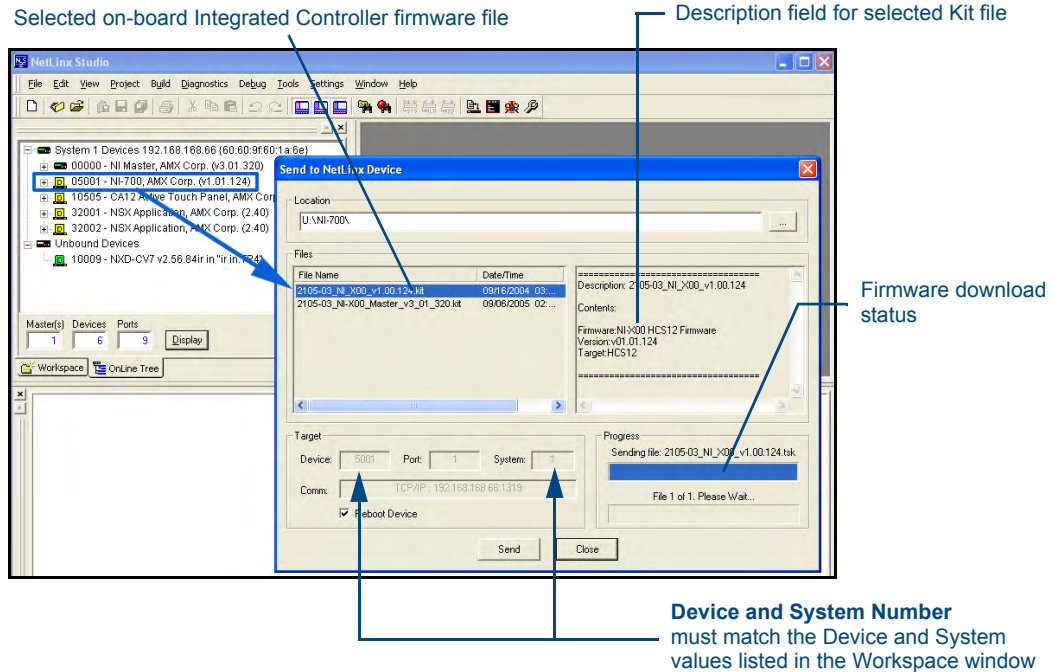

FIG. 29 Send to NetLinX Device dialog (showing on-board Integrated Controller firmware update via IP)
- From within NetLinX Studio, select **Tools > Firmware Transfers > Send to NetLinX Device** from the Main menu to open the *Send to NetLinX Device* dialog (FIG. 29). Verify that the target's System number matches the value listed within the active System folder in the **OnLine Tree** tab of the Workspace. **The Device must match the entry for the on-board Integrated Controller (NI-X000/NI-X000) device.**
- Select the Integrated Controller's (**_X00**) from the **Files** section (FIG. 29).
- Click **Send** to begin the transfer. The file transfer progress is indicated on the bottom-right of the dialog (FIG. 29).